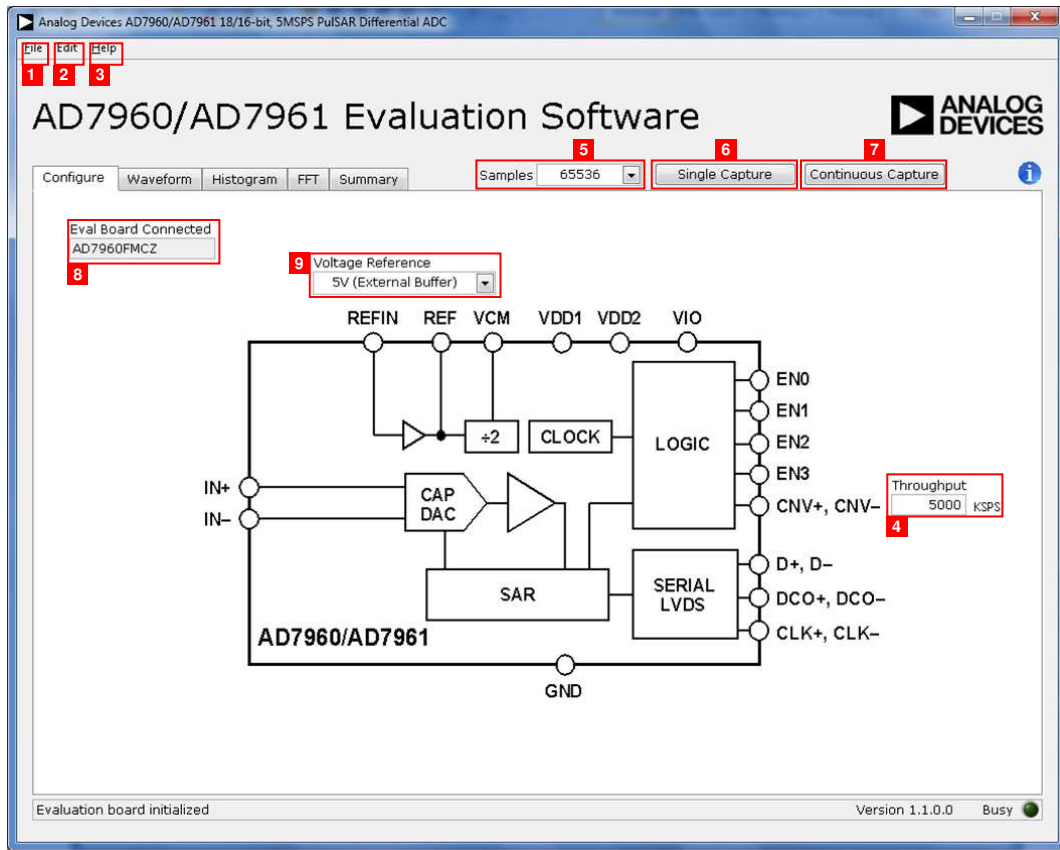

Figure 19. Setup Screen
1. From the **Start** menu, select **Programs>Analog Devices> AD7960_61 Evaluation Software**. The main window of the software then displays (see Figure 19). If the evaluation system is not connected to the USB port via the EVAL-SDP-CH1Z when the software is launched, a connectivity error displays (see Figure 17).
This section describes the full software operation and all windows that appear. When the software is launched, the panel opens and the software searches for hardware connected to the PC. The user software panel launches as shown in Figure 19. The labels listed in this section correspond to the numbered labels in Figure 19.
The File menu, labeled 1 in Figure 19, offers the choice to